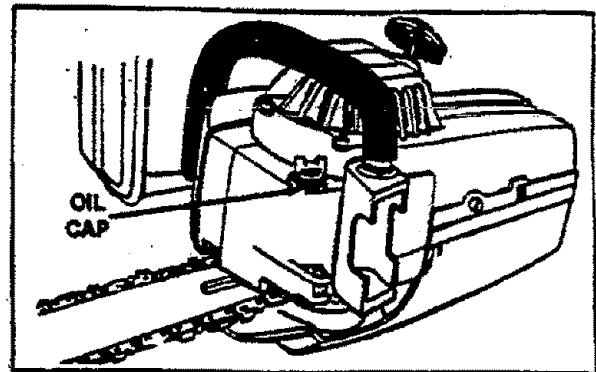

Figure 13
- a. Turn saw on its side with oil cap up. Figure 13.